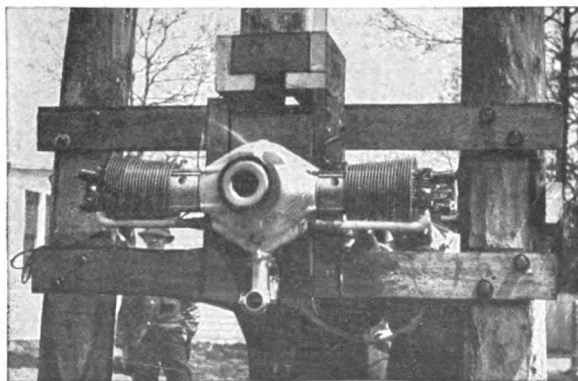

Fig. 76. View of Marlin-Rockwell Two-Cylinder Airplane Engine
*Marlin-Rockwell.* A novel development for small one- and two-place sporting planes is the two-cylinder engine, like the Marlin-Rockwell shown in Fig. 76. Generally, the two-cylinder opposed type has shown such a lack of balance that it has gradually gone out of use, but for aeronautic work it is so compact and takes up so little space as to warrant its use. The engine shown is actually running, the shadow of the propeller being visi-